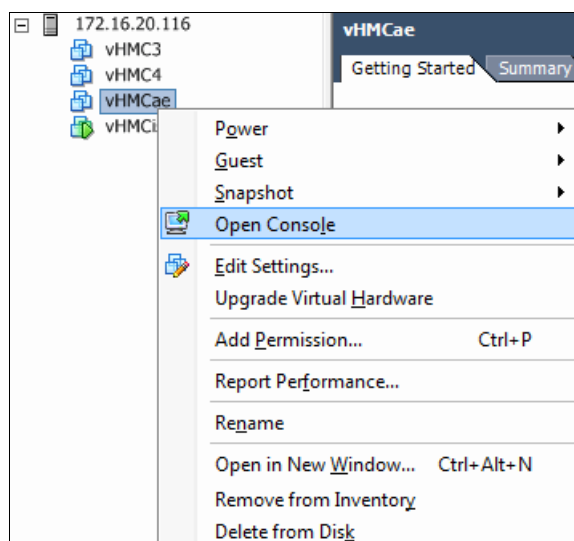

Figure 3-65 Open the console
18. From the main vSphere panel, right-click the new VM and select **Open Console** (Figure 3-65).